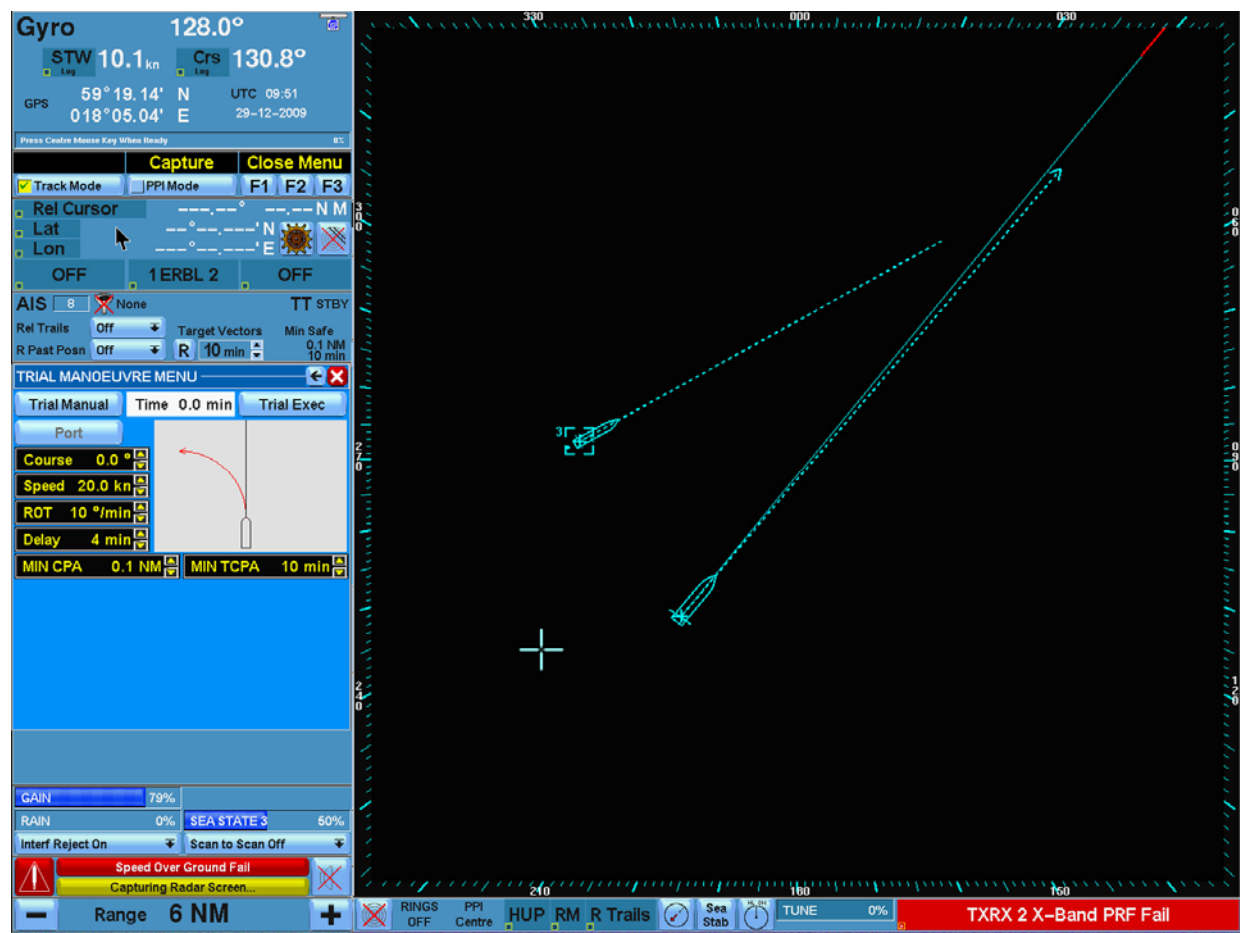

Figure 5.15.4 Automatic Trial Manoeuvre scenario
- on Own Ship Section the word TRIAL follows the gyro value, highlighted in red color (Figure 5.15.4)